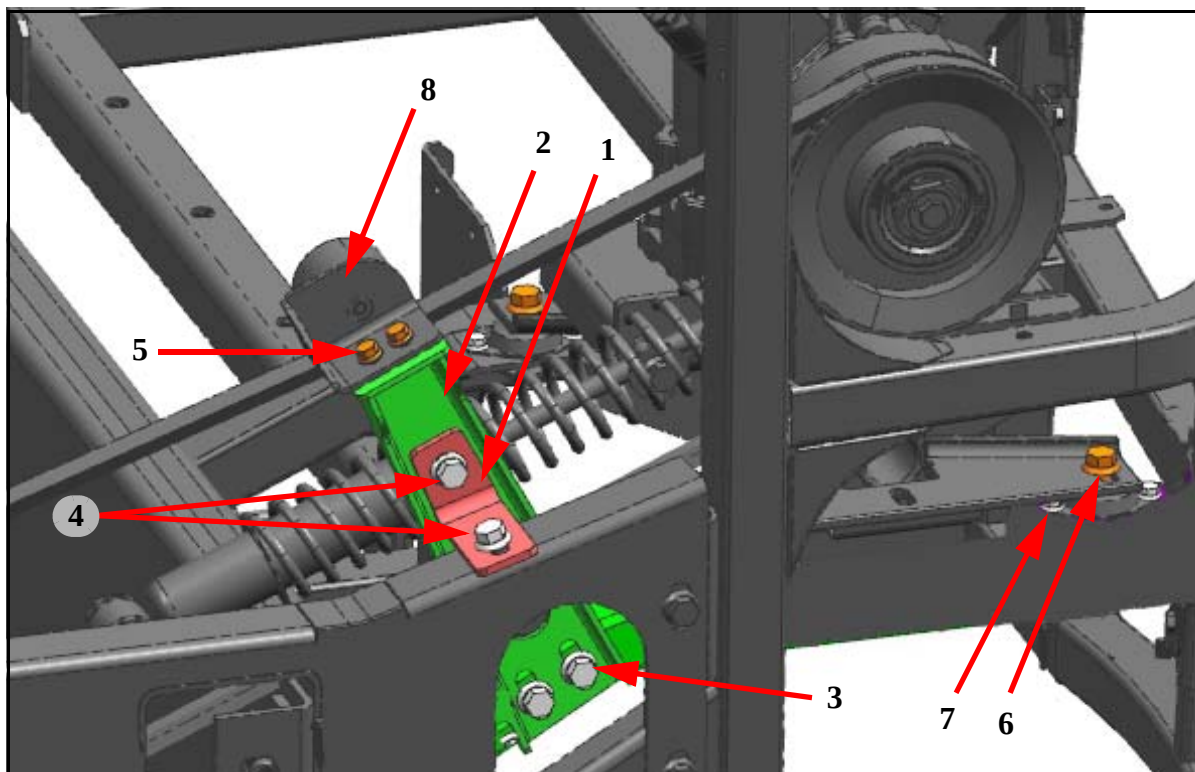

Figure 17. Idler pulley bracket angle and snubber bracket installation.
32. Orient and install the new snubber bracket, p/n 08-27-1327, idler pulley bracket angle, p/n 08-27-1326, and existing idler pulley as shown in Figure 17.
Item	Figure 17 Description